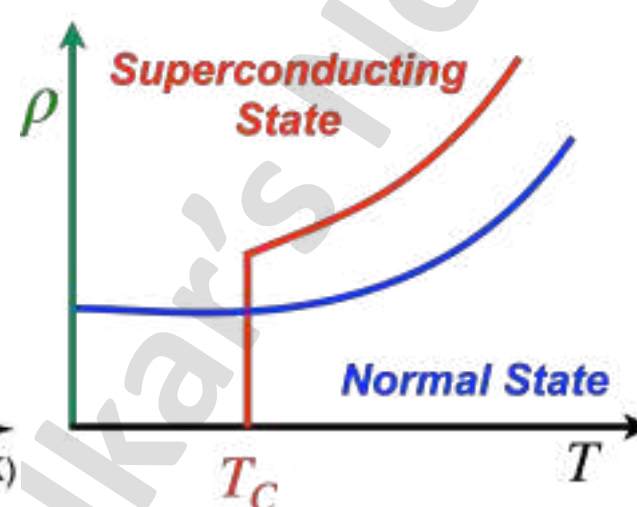

Fig. 2: Behaviour of resistivity (ρ) for superconductors
- Fig. 2 shows the resistivity (ρ) of superconductors exhibits a distinct behaviour compared to conventional conductive materials. As a superconductor is cooled down, its resistivity decreases gradually, similar to that of normal conductors, until it reaches the critical temperature (T_c). At T_c , the resistivity drops abruptly to zero, indicating the onset of the superconducting state.